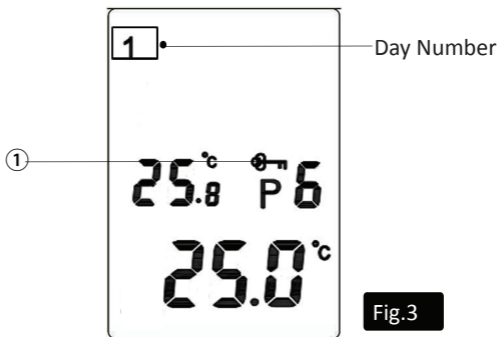

Fig.3
1. To override the temperature settings, press HOLD once until the key symbol ① (Fig. 3) is displayed in the window, the programmer is then in manual mode.